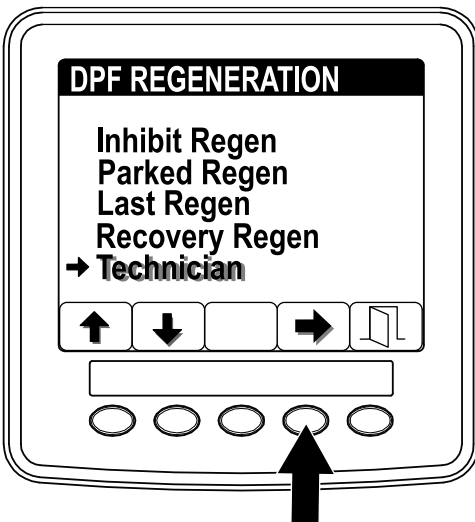

Figure 38
- Access the DPF Regeneration menu, and press buttons 1 or 2 to scroll down to the TECHNICIAN option (Figure 38).
- Press the button 4 to select the Technician entry (Figure 38)